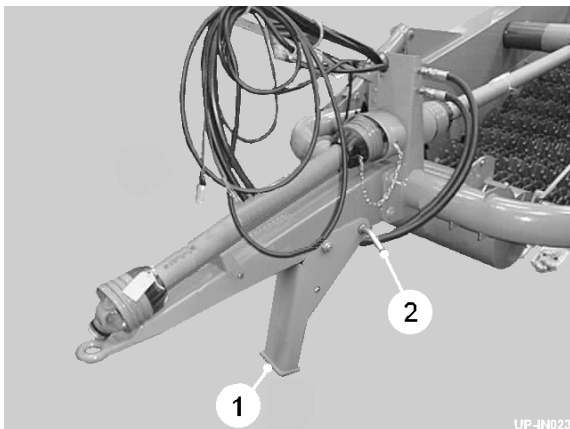
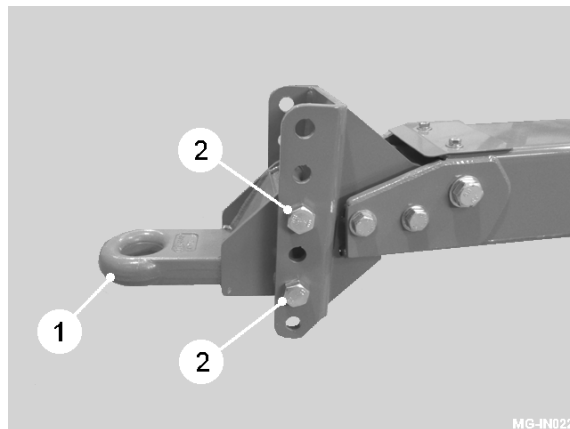
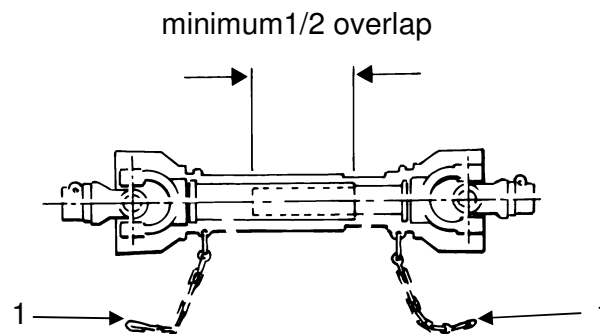

Fig 1
Fig 1a
Fig 2
The stand (item 1, fig 1) is provided so that the machine is held at a suitable height for safe coupling to the tractor pick-up hitch. On machines fitted with an adjustable drawbar eye (item 1, fig 1a), reverse the tractor up to the machine aligning the drawbar and pick-up hitch. Measure the height of the tractor hitch hook from the ground and adjust the drawbar eye to the same height by removing the two mounting bolts (item 2, fig 1a) and repositioning them into a different set of holes. The drawbar eye can be turned upside down to achieve higher settings.
When the machine has been securely attached to the tractor, the jack stand can be folded back into the stored position by removing the anchor pin (item 2, fig 1), rotating the stand and then securing it with the anchor pin.
Fit the two halves of the PTO shaft onto their respective drive shafts on the machine and tractor. Check the shaft length by turning the tractor fully in both directions with the machine in its working position while attached to the tractor's pick-up hitch. Ensure the sliding tubes, when fully extended, have an overlap at least half the closed length (see figure 2). Ensure that the ends of the sliding tubes when at the shortest point are not in contact with other parts of the PTO shaft. If necessary, shorten both tubes and guards equally to achieve end clearance at the minimum length position.
Ensure that the safety chains (item 1, fig 2) used to prevent the guards from turning, are fixed to the tractor and implement in such a way that they will not be stretched when the drive shaft is at maximum articulation. When disconnected from the tractor, position the PTO shaft on the drawbar PTO rest as shown in figure 1.